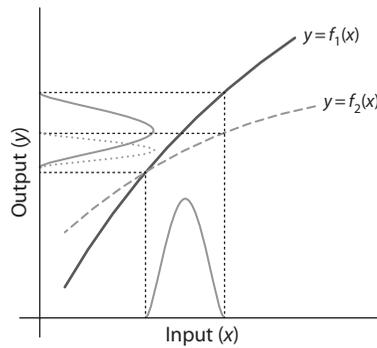

Figure 4.11 Transfer function modification.
- *Method 3:* Modify the relationship. Although frequently difficult to do, an option may exist to change the relationship (e.g. transfer function) between inputs (x 's) and output (y) through product design or redesign. This is not recommended due to the complexity of doing so and is often considered a last resort when too much variation in y exists to create a robust design. As usual, shifts in inputs and output must still satisfy product requirements and process specifications (Figure 4.11).